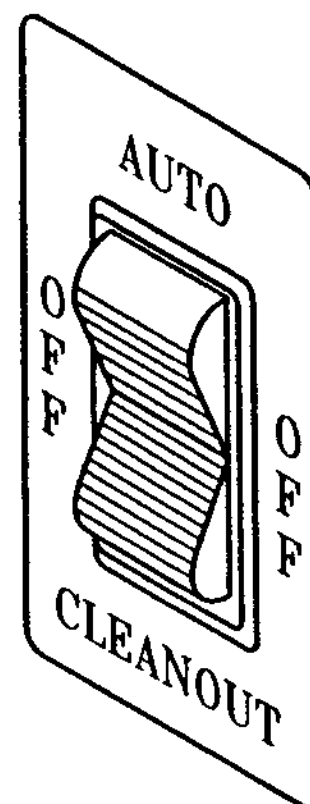

Fig. 26
6. Set each control switch (Fig. 26) to the center "OFF" position and drain the solution from the machine. Proceed directly to the "Operation" section of this manual.